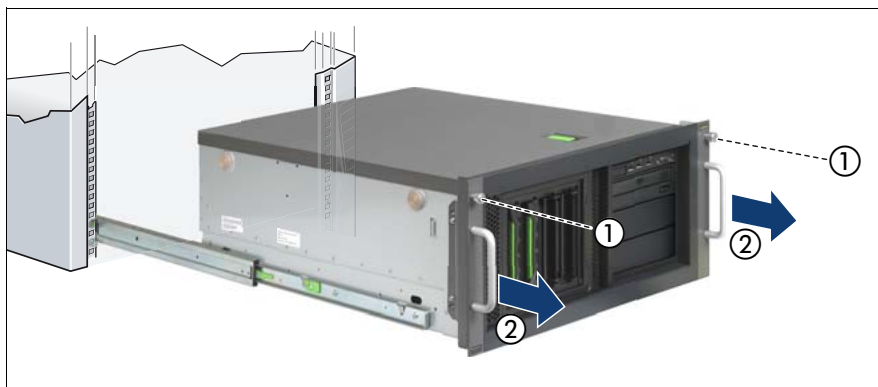

Figure 4: Pulling the server out of the rack
- ▶ Loosen the two knurled screws on the front (see figure 4 on page 22) and pull the server as far as it will go out of the rack.